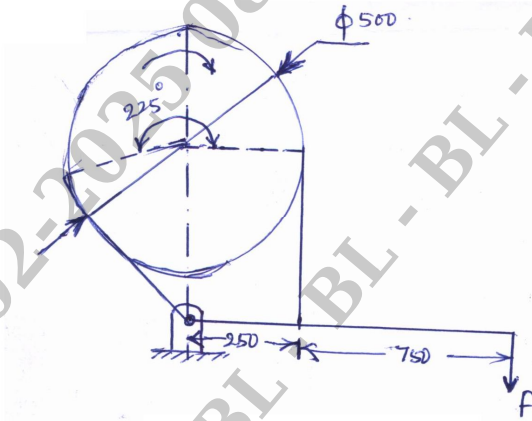

Fig. Q8 (b)
- b. A simple band brake as shown in Fig.Q8 (b) is to be designed to absorb a power of 30 kW at a rated speed of 750 rpm. Determine